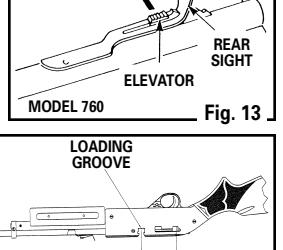

Fig. 13
- Model 760: The rear sight may be adjusted to shoot higher or lower (elevation). Move the rear sight elevator back to make the BB or pellet hit higher on the target. Move the rear sight elevator forward to make the BB or pellet hit lower on the target. When moving the elevator, slightly lift the rear sight and reset it on the desired notch in the elevator (Fig. 13).